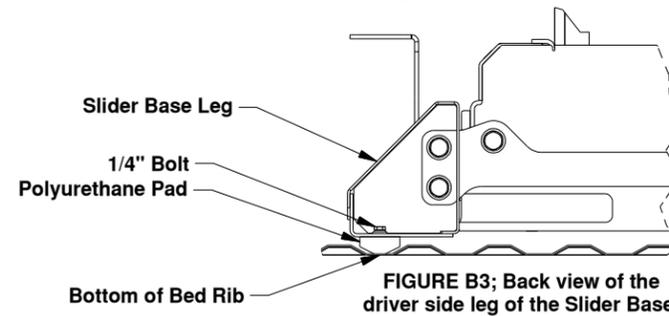

FIGURE B3; Back view of the driver side leg of the Slider Base.
5. Square the Slider base legs with the ribs of the truck. Position the polyurethane pads so that they are both in a bottom rib along their entire length, See figure B3. Tighten the four 1/4" bolts holding the pads to the base.